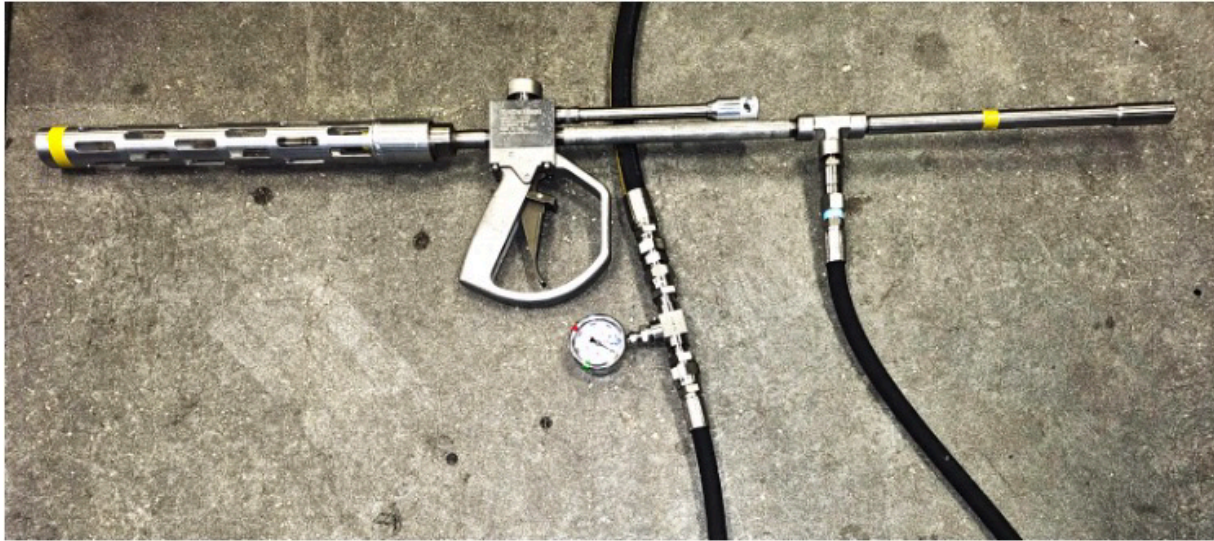

Figure 5.1 – Zero-Thrust Gun Pressure Calibration
3. Turn the E-Stop button and pull out to release (See **Figure 5.1**).
1. Engage the pressure pump by turning the start-up by-pass valve to the “CLOSED” position (See **Figure 5.1**).